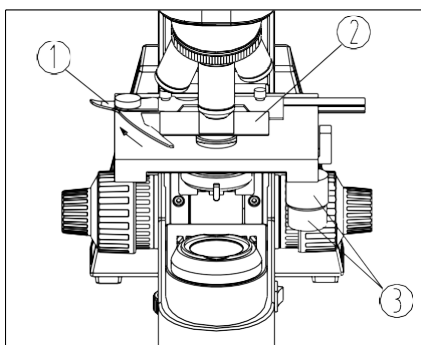

Fig.9
1. Open the slide holder by pressing the slide holder lever ① towards the back of the microscope, insert slide with cover slid up ② secure the slide by gently releasing the slide holder lever (see Fig. 9).
2. Rotate the X and Y-axis knob ③ to move the specimen to the center (alignment with the center of the objective).